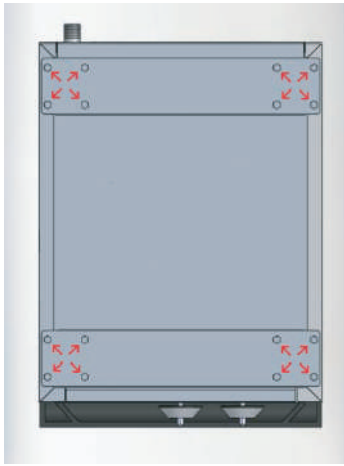

FIG1
1. Remove cast iron grate and burners from chassis. Turn chassis upside down and locate the leg plate to align the four screw holes (Fig. 1).